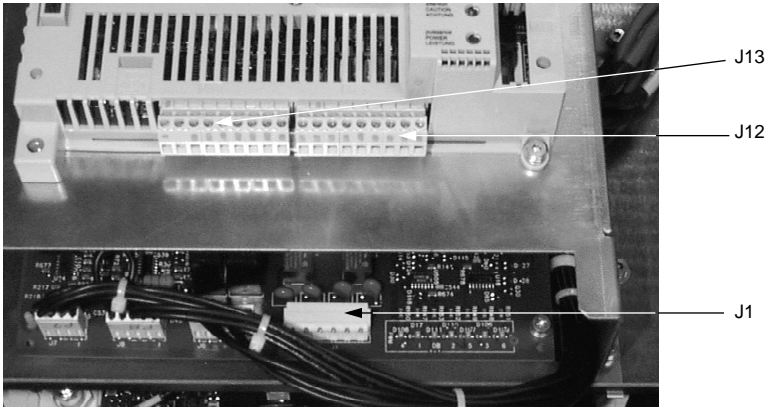

Figure 4.2.2: Location of J1, J12, and J13 Connectors
4. Using a flat blade screwdriver, loosen the terminal screws on the J1, J12, and J13 connectors (see Figure 4.2.2 on page 4.2.6). Pull the field wiring back out of the way.